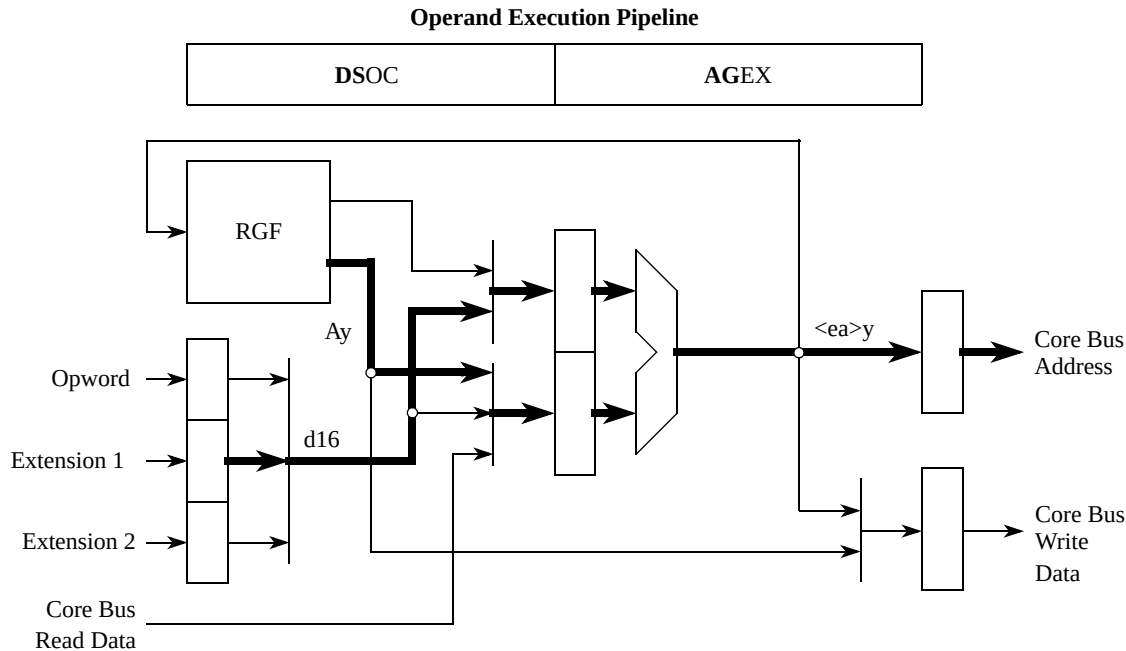

**Figure 2-12. V2 OEP Embedded-Load Part 1**
For memory-to-register (embedded-load) instructions, the instruction is effectively staged through the OEP twice with a basic execution time of three cycles. First, the instruction is decoded and the components of the operand address (base register from the RGF and displacement) are selected (DS). Second, the operand effective address is generated using the ALU execute engine (AG). Third, the memory read operand is fetched from the core bus, while any required register operand is simultaneously fetched (OC) from the RGF. Finally, in the fourth cycle, the instruction is executed (EX). The heavily-used 32-bit load instruction (`move.l <mem>y, Rx`) is optimized to support a two-cycle execution time. The following example in Figure 2-12 shows an effective address of the form  $\langle ea \rangle_y = (d16, A_y)$ , i.e., a 16-bit signed displacement added to a base register  $A_y$ .